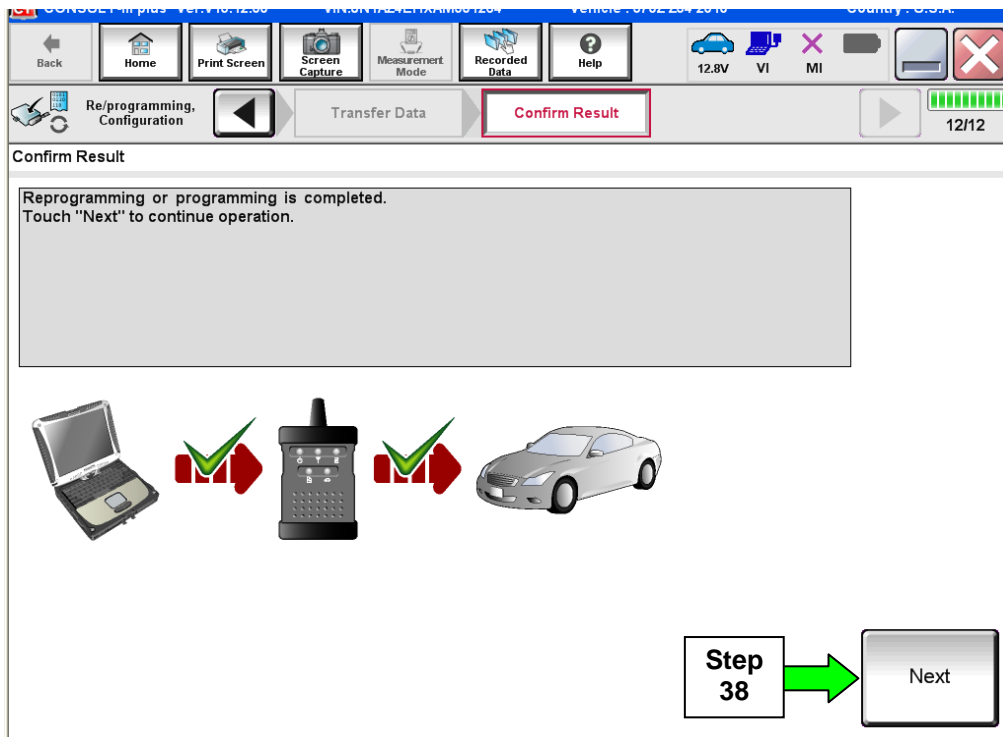

Figure 20
36. When the screen in Figure 20 displays, programming is complete.
NOTE: If the screen in Figure 20 does not display (programming does not complete), refer to the information on the next page.